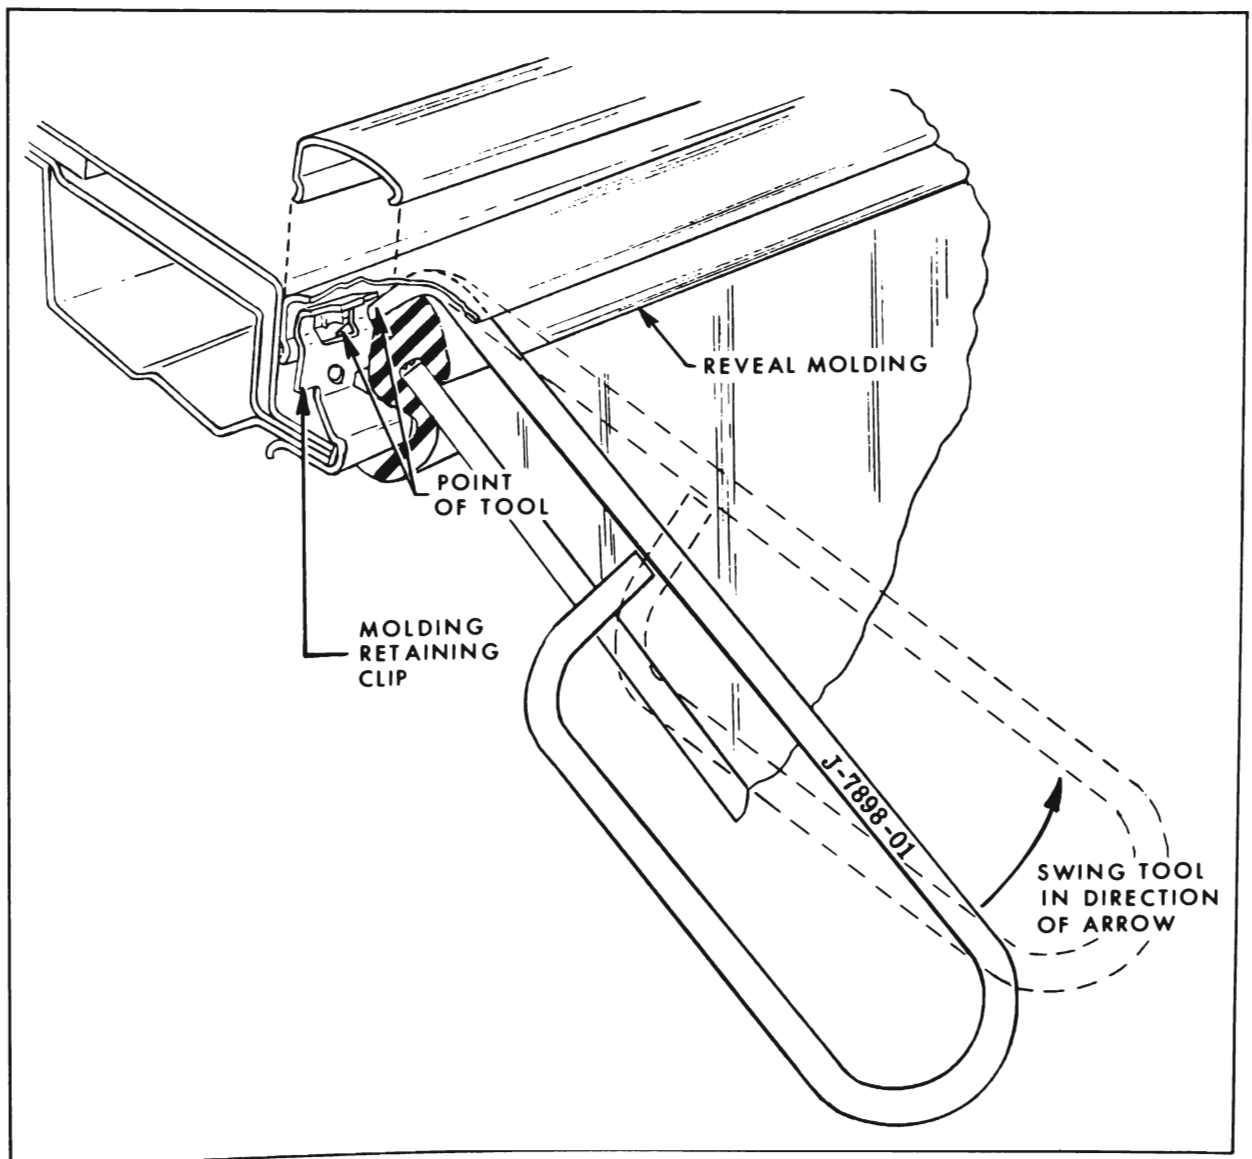

Figure 1-5—Reveal Molding Removing Tool
Figure 1-5; swing tool slightly as indicated in illustration, to disengage prongs of clip from molding and lift molding free of clip. Repeat this operation at each molding clip.
8. On all styles except "67" styles, carefully remove the upper reveal molding with tool No. J-7898-01 (Figure 1-5) or flat-bladed tool as required. On "67" styles, remove screws at outer ends of molding, then remove upper garnish molding to gain access to stud nuts. Remove nuts and molding.